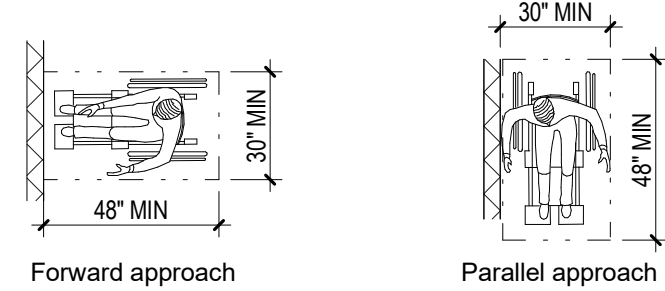

Figure 305.5 Position of clear floor or ground space
E. Unless otherwise specified, clear floor or ground space shall be positioned for either forward or parallel approach to an element. (Fig. 305.5)